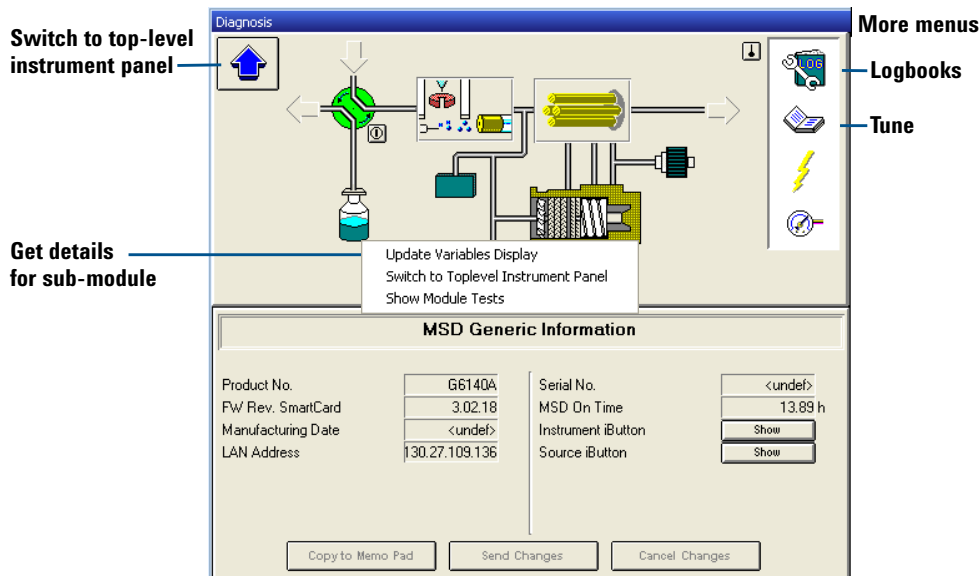

Figure 61 Instrument panel – module details for the MS.
- **Show Module Details** – Display a detailed schematic of the module, as shown in Figure 61 on page 112.
As you move your mouse across the diagram shown in Figure 61, whenever the cursor changes from a pointer to a hand, you can click to display a menu that gives access to details for a sub-module. For example, you can click the icon for the turbomolecular pump to view vacuum readings, or the icon for the quadrupole to view its temperature. You can also click the icons in the white area on the right to display their menus.
- The **Logbooks** icon, shown in Figure 61 on page 112 (click the icon and select **Update Variables Display**)
You access the maintenance logbook via the **Logbooks** icon, shown in Figure 61 on page 112. (Click the icon and select **Maintenance Logbook Entry**.) You then manually enter the information via ChemStation Edition program.